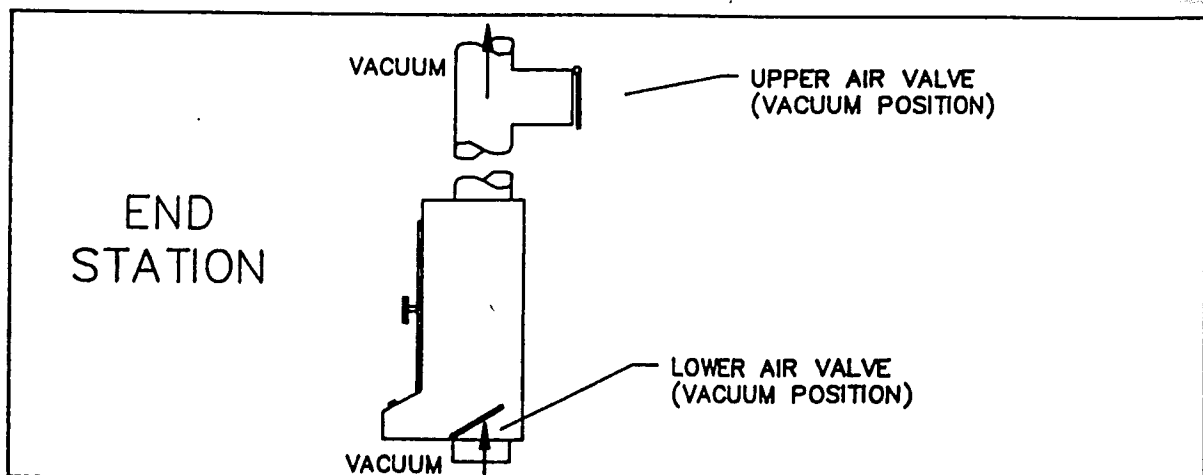

Figure III-3
2. When the END Station is sending a carrier to the MAIN Station, the first thing that happens is that the door latch mechanism at the MAIN Station is actuated by the opening of the END Station door. Then, after the carrier is inserted into the send chamber, the door closed, and the send initiated, the Blower Package provides vacuum to the system and causes the END Station's upper valve to close and the lower valve to open (see Figure III-3).